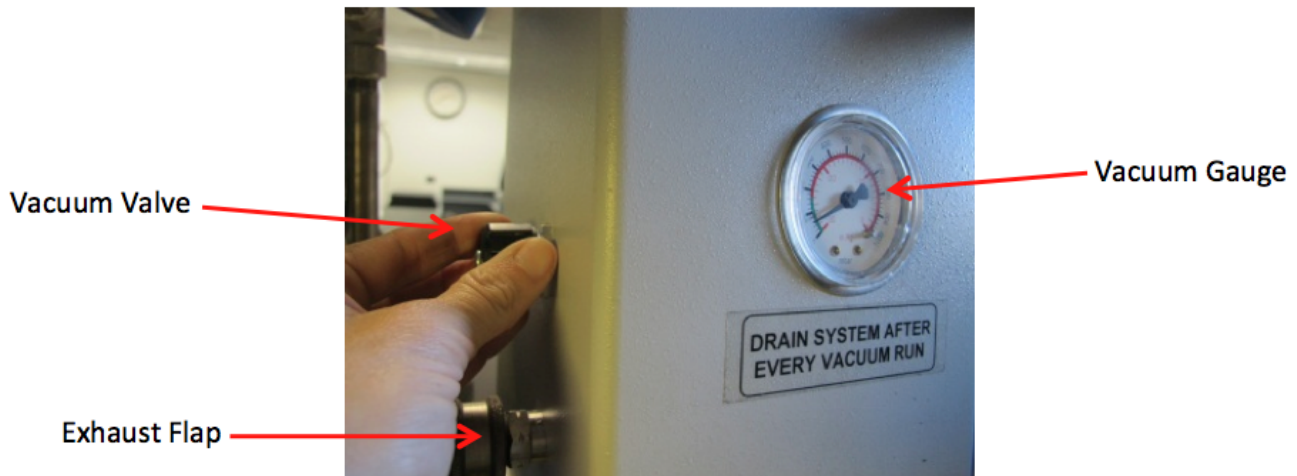

Figure 3
6. Close valve on the LP50 to the left of the vacuum gauge (Fig. 3).
7. The vacuum gauge should read less than 150 mbar (Fig. 3). It should be in the green portion of the gauge.
- a. If there is not a proper vacuum seal right away, try pressing lightly on the slides to help them seal and make sure the exhaust flap (Fig. 3) is clean.